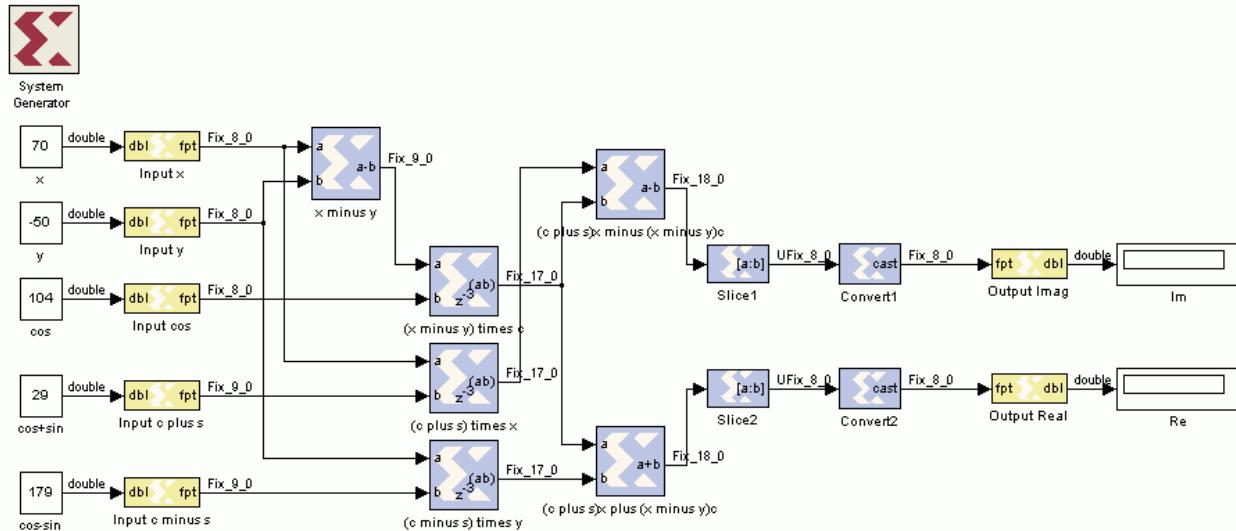

Fig. 4: Complex multiplier using three real multiplications.
1. Create a new model and complete the design of the complex multiplier to match **Fig. 4**.